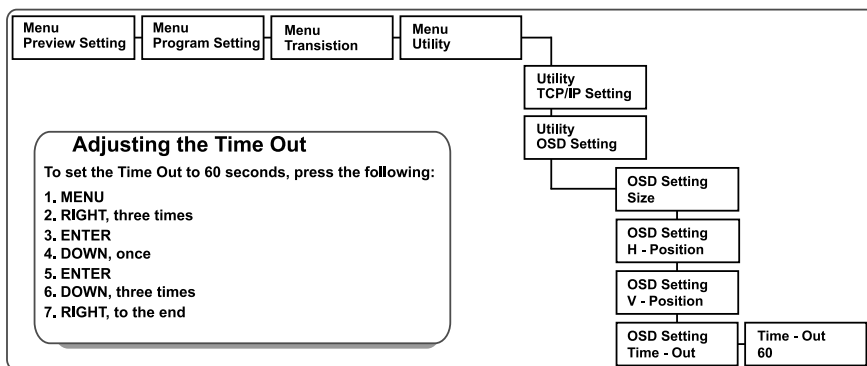

Figure 18: Example of how to use the LCD Display
2. Press the appropriate front panel OSD buttons (as defined in Figure 18).